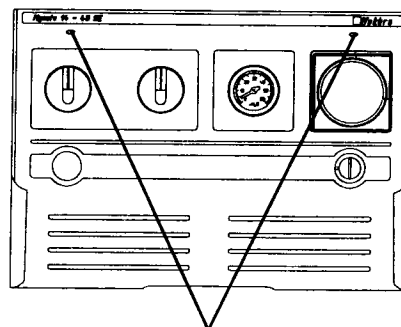

Fig.10
5.3.1 Remove the 2 screws securing the lower control panel to the upper outer casing.(Fig.10)